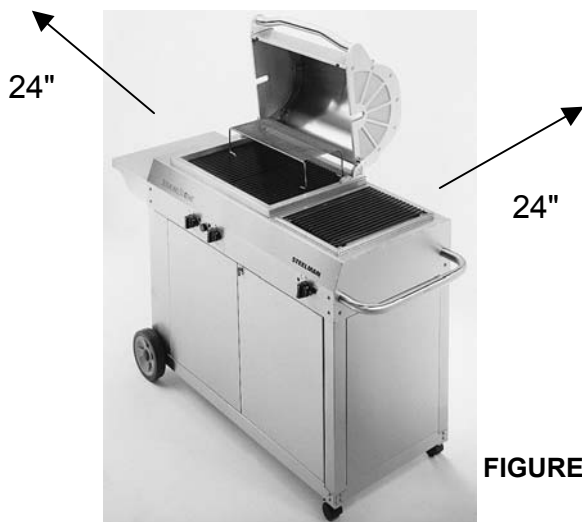

FIGURE 1
THIS APPLIANCE SHOULD NEVER BE PLACED CLOSER THAN TWENTY-FOUR (24) INCHES FROM ANY SIDE OR BACK, TO ANY COMBUSTIBLE CONSTRUCTION OR MATERIALS. (SEE FIGURE 1)
Your StraubelStone Gas Barbecue can be installed on any flat, stable surface away from any combustible materials or construction. See " CLEARANCES FOR COMBUSTIBLE CONSTRUCTION AND MATERIALS " on Page 4. (SEE FIGURE 1)